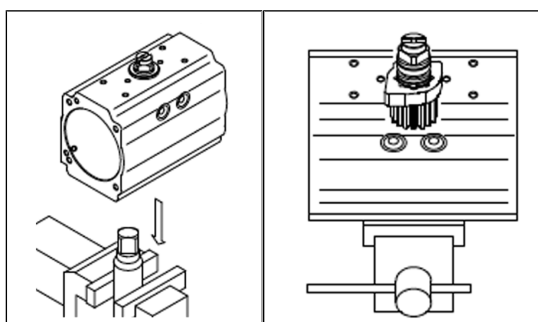

Fig. 13: Installation of the pistons
- ▶ Grease and install the O-rings (item 16), piston guide jaws (item 05) and piston guide band (item 15).
- ▶ Grease the inner surface of the housing (item 50) and the piston racks (item 40).
- ▶ Place the socket (item 60) on a sufficiently secured coupling.
- ▶ Ensure that the cam is in the correct position (see Figure 13).